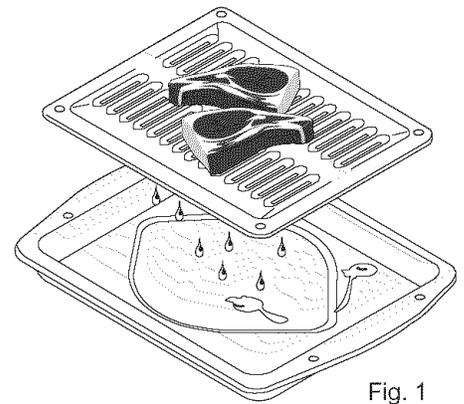

Fig. 1
5. Place the insert on the broil pan, then place the food on the insert (See Fig. 1; some models). **DO NOT** use the broil pan without the insert or cover the insert with **aluminum foil**. The exposed fat could ignite.
- In the **upright position** to allow low profile food items to be placed both under and on top of the rack (for example, rolls or biscuits on top of the rack and a casserole dish under - See Fig. 1).